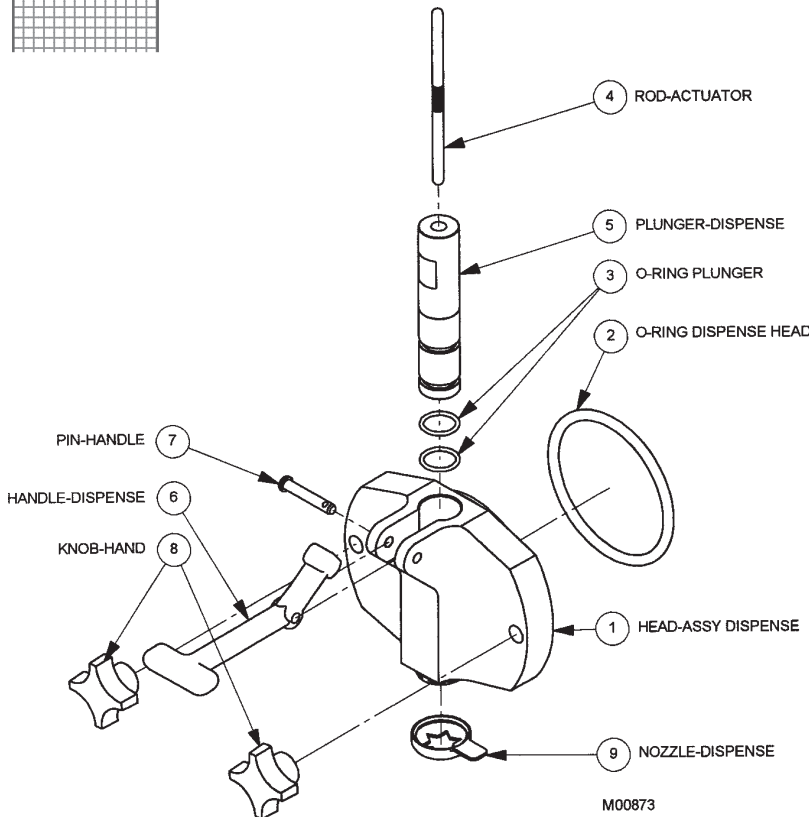

Figure 8-3 Assemble the head assembly
6. Install and lubricate the O-rings (see O-ring chart) on the dispensing plunger and insert into the head (figure 8-3).